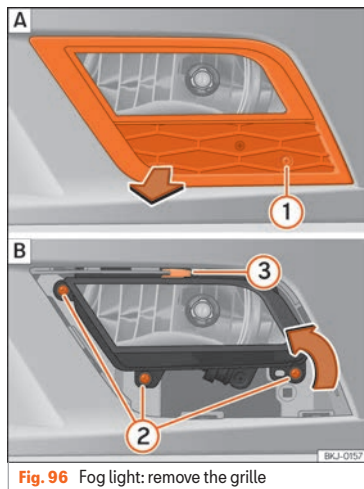
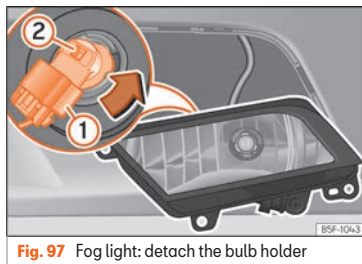

Fig. 96 Fog light: remove the grille
Fig. 97 Fog light: detach the bulb holder
- Remove the bolt »» Fig. 96 ① from the fog light grille with a screwdriver.
- Remove the 3 bolts ②.
- Remove the metal clip situated on the upper part of the fog light by pulling away from the vehicle ③ and extract the fog light.
- Remove connector »» Fig. 97 ① from the bulb.
- Turn the bulb holder »» Fig. 97 ② to the left and pull.